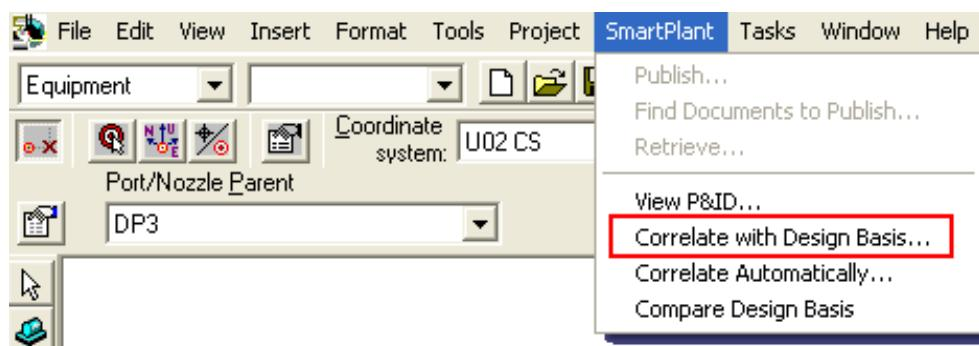

Figure 14: SmartPlant > Correlate with Design Basis... Command
3. On the SmartPlant menu, click Correlate with Design Basis... command, as shown in Figure 14.